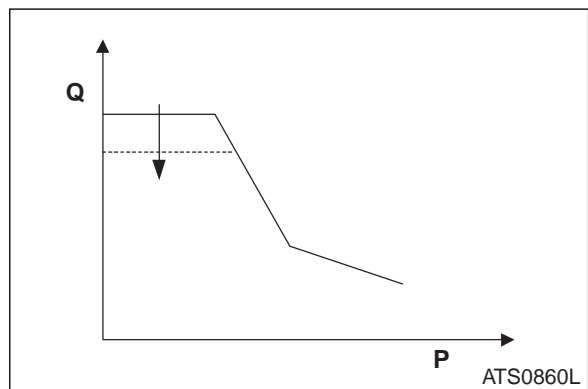

Figure 15
The adjusting screw (1) affects the delivery rate (Q) of the pump. Turning the adjusting screw shift the maximum cut flow (as shown in Figure 15).